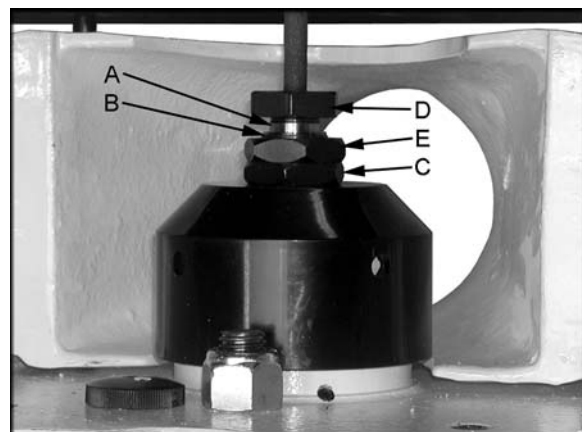

Figure 3
2. Thread the arbor (A, Figure 3) into the arbor housing (B, Figure 3).
3. Use the provided wrenches to hold the lower arbor housing nut (C, Figure 3) while turning the arbor nut (D, Figure 3) clockwise.
2. Use the provided wrenches to hold the upper arbor housing nut (E, Figure 3) while turning the arbor nut (D, Figure 3) counter-clockwise.